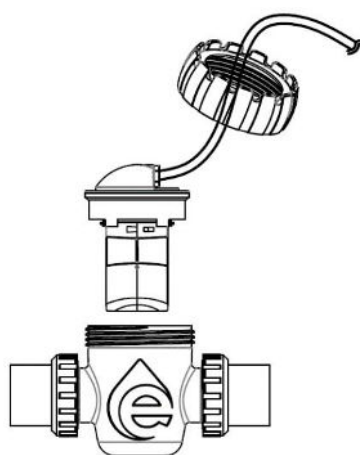

Figure 3
2. The electrolytic cell is designed to install in PVC pool plumbing. The opening of the cell holder must be placed upright to enable the maintenance of titanium plates. To install the cell, cut off at least 187mm of pipe. Fix the electrolytic holder on the pipe, put the electrodes into the cell. Make the electrode cable go through the nut (Figure 3).